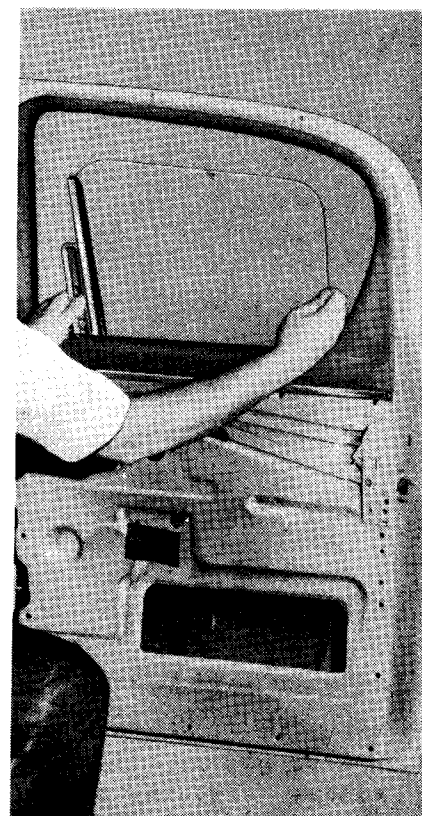

FIG. 7
16. Raise the glass through the opening (see Fig. 7) and remove it from the door.